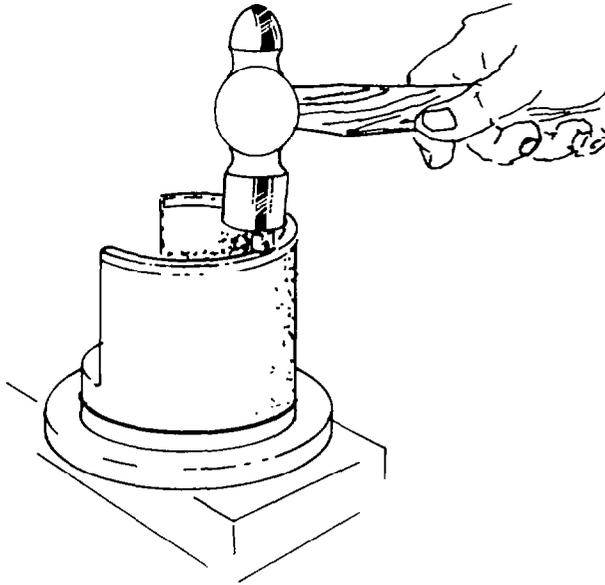

Fig. 313 — Installing Locating Pin
- b. Turn the housing over and (after ensuring that the hole is clean and free from lubricant or cleaning fluid) install the locating pin as shown in fig. 313.